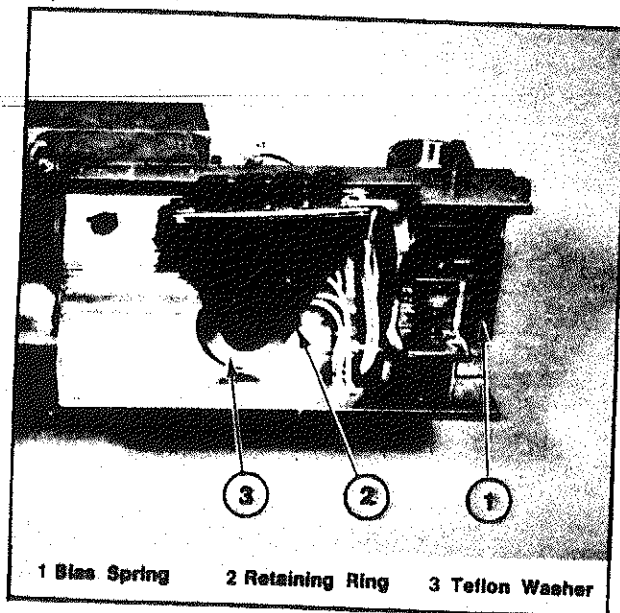

Figure 13. Turret Teflon Washers
2. Remove bias spring, figure 13.